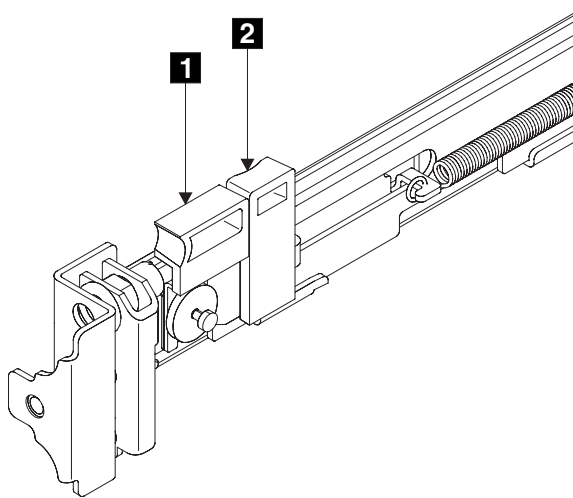

Figure 38. Retracting the latch lock carrier
2. Put your index finger against the side of the latch-lever, **1** in Figure 38, and put your thumb against the front of the latch-lock **2**.